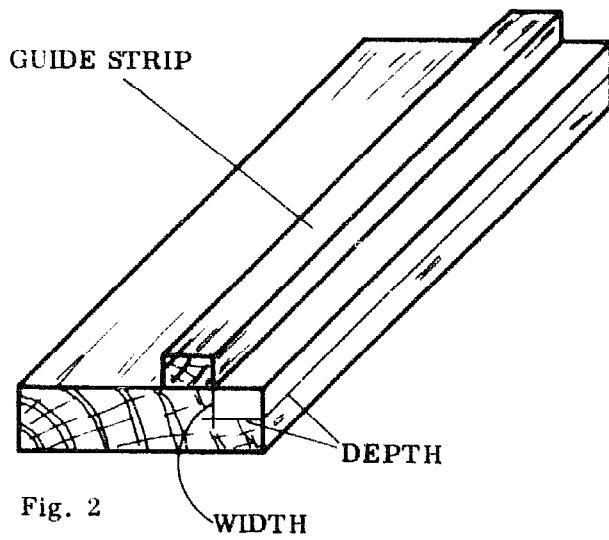

Fig. 2
- Mark the depth and width of the rebate with a marking gauge (Fig. 2).